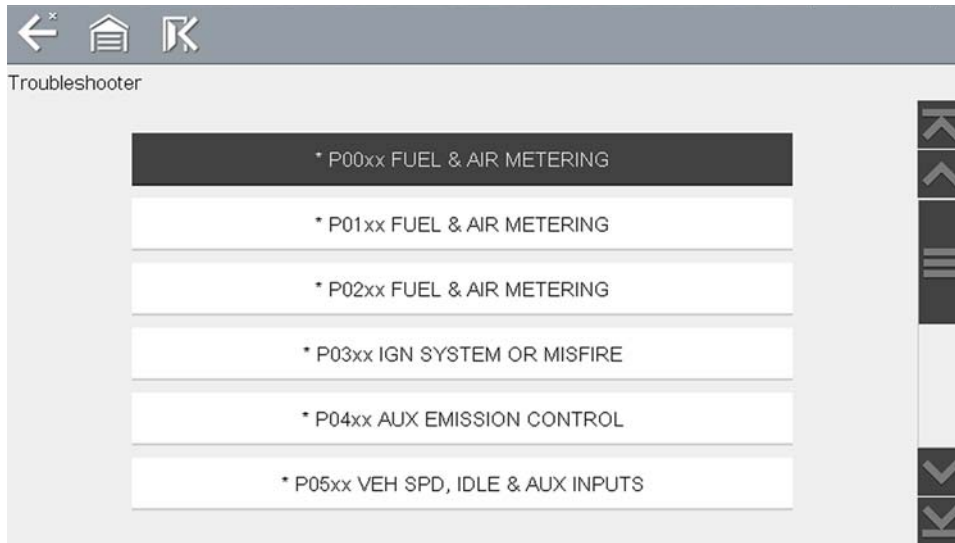
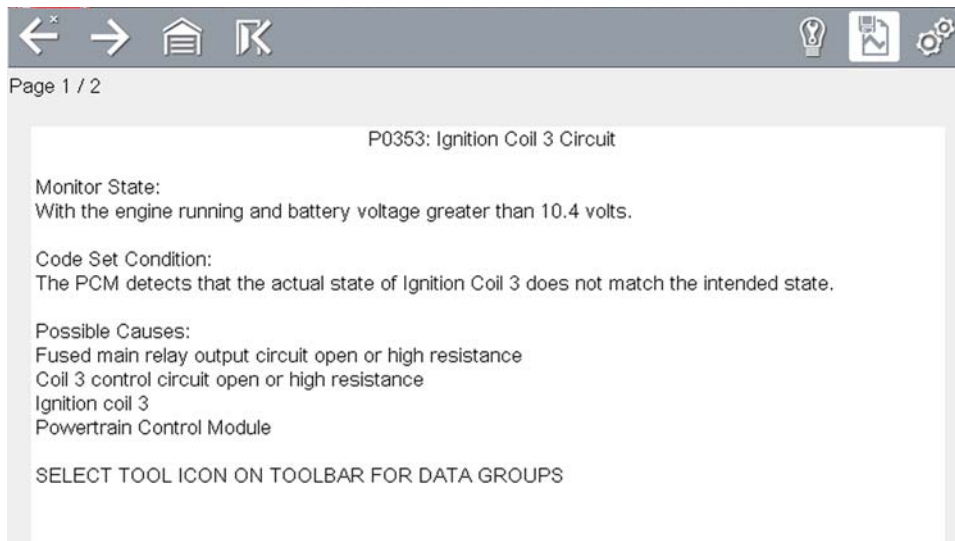

Figure 6-36 Troubleshooter code tip menu
Figure 6-37 Troubleshooter tip (Example: P0353)
- **Code Tips**—provides detailed information on setting conditions, testing, and interpreting test results for specific codes (Figure 6-36 and Figure 6-37).